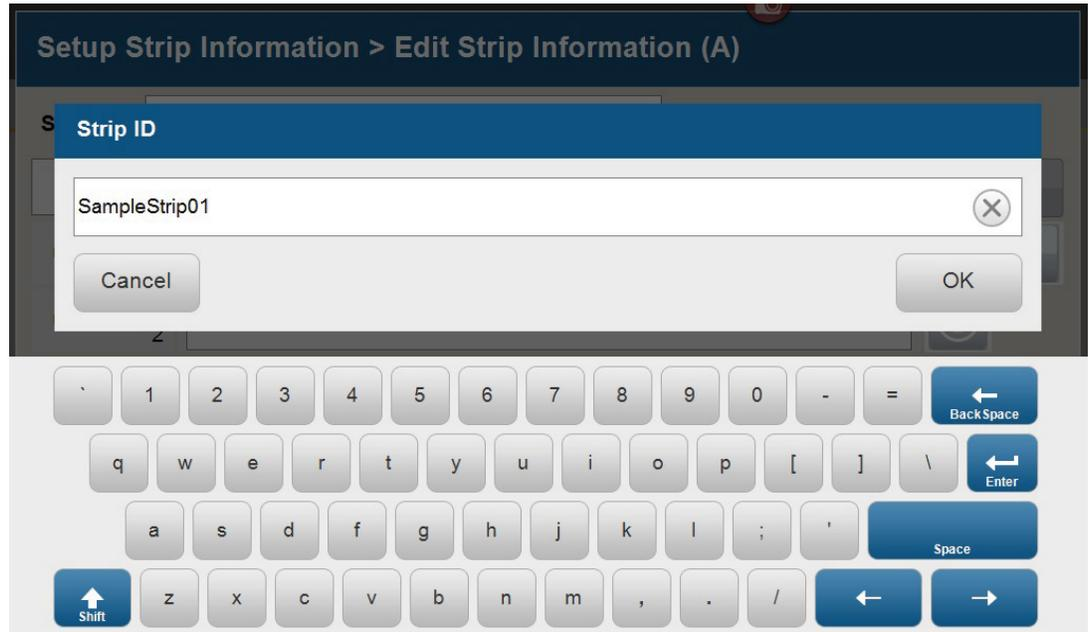

Figure 11. 'Set Strip ID' window.
- The default Strip ID is date and time. It can be modified by selecting the Strip ID box. This opens the 'Set Strip ID' window and a keypad will become active on the touch screen (Figure 11). Alternatively, the Strip ID can be entered using a traditional keyboard if one is connected to the Spectrum Compact CE System. Enter the appropriate Strip ID, and then select **OK** to exit and return to the 'Edit Strip Information' screen.